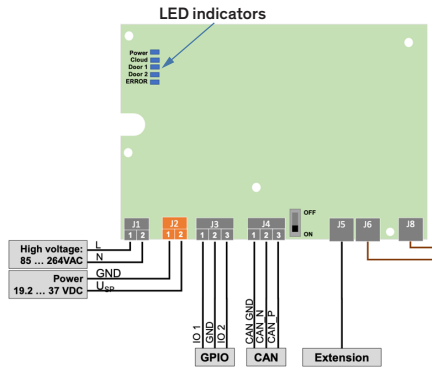

Figure 28: LED Indicators Gateway Interface PCB
- Group two is on the power / Gateway PCB shown in Figure 28.
The Gateway PCB has LED indicators to provide system status. These LEDs are located as shown in Figure 28.